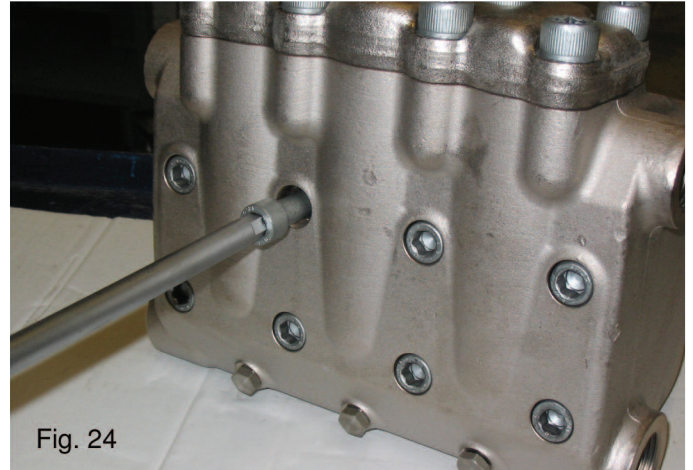

Fig. 24
- A) Remove the fluid end by loosening the 8 bolts (see Fig. 24).
*** The fluid end screws must be tightened in 2 stages following the sequence indicated in fig 24: